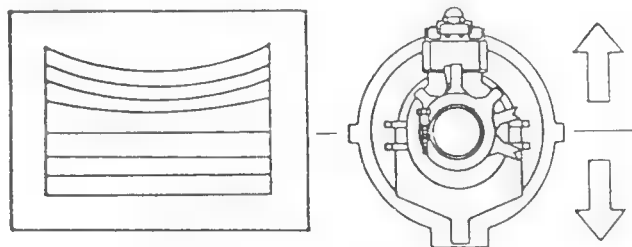

Fig. 4
1. Tilt the deflection yoke up and down to adjust when the pincushion distortion is not the same at the top and bottom of the picture. (Fig. 4)